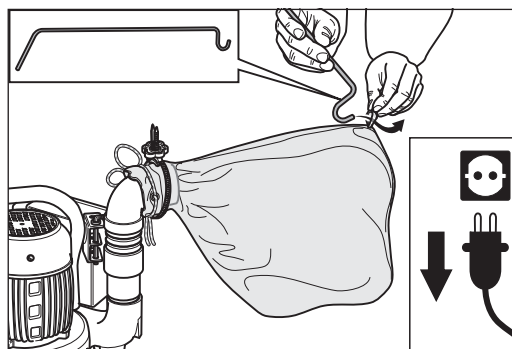

Fig. 5 Hook the cable rod into the sling on the dust bag.
- 6 Pick up the cable rod and hook it into the sling on the top end of the dust bag (Fig. 5).